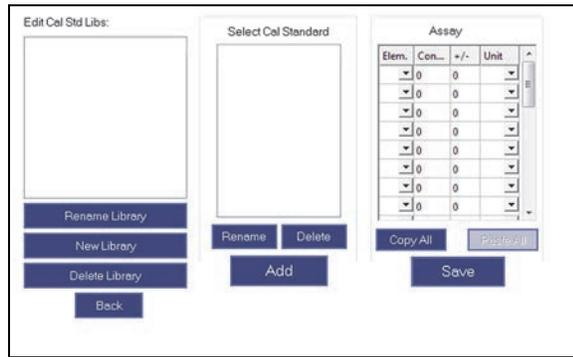

Figure 6-2 The Cal Std Library pane
4. Click **Cal Std Library** to display the **Cal Std Library** pane (see Figure 6-2 on page 85).